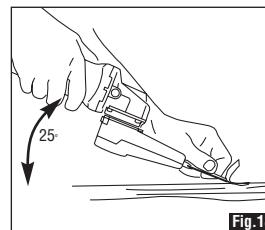

Fig.18
- Use a maximum of 25° angle when removing wood. (see fig.18)